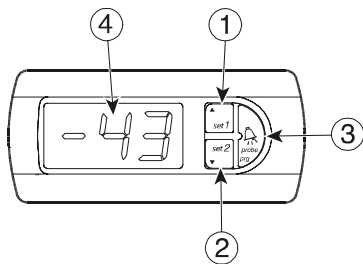

Fig. 2.3.1
Fig. 2.3.1 shows the front panel of the controller, on which there are three keys backlit by as many LEDs (ref. ①②③) and the two and a half digits display and sign (ref. ④).
Three buttons (5, 6 and 7 in Fig.2.3.1) are used to activate and deactivate of the instrument's operating modes and set the parameters. The use of the buttons can be divided into two different situations: one in normal operation, and the other when setting the parameters. For each button, the following are the possible actions associated with both possibilities.